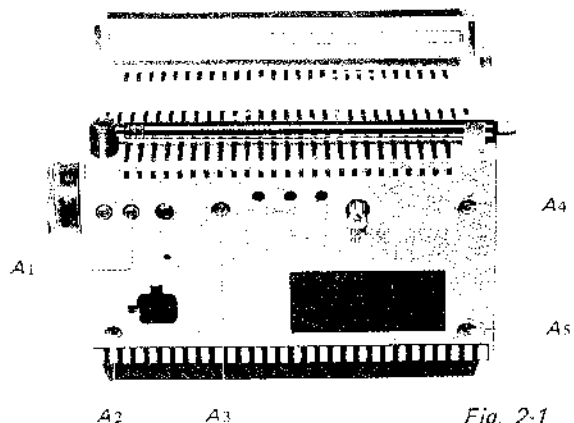

Fig. 2-1
1. Remove the five screws labeled A1 A5 in Fig. 2-1.